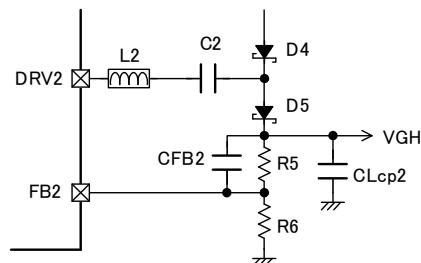

Figure 4.
8. When load of inverting charge pump and step-up charge pump are with no load and load current of step-up DC/DC converter is large, the output of the each charge pump may become unstable by switch of step-up DC/DC converter. In case of that, please put a ferrite bead (L2) into a driver output (DRV1 pin and DRV2 pin) of the each charge pump. (Please refer to figure 4.)